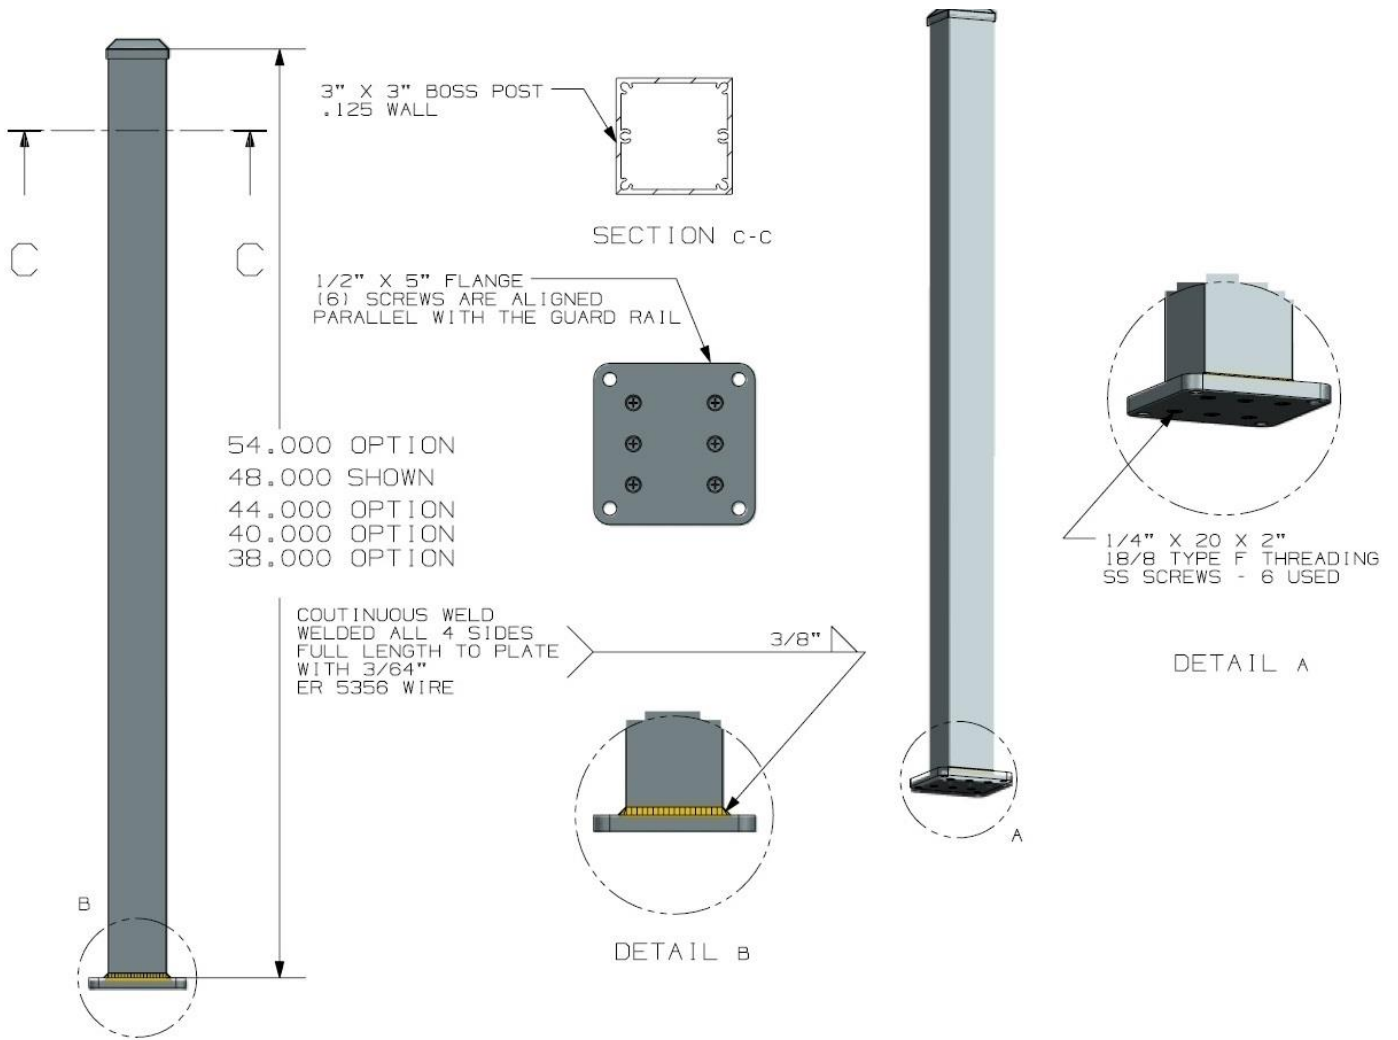

Figure 20 – 3 Inch Commercial Post
3.8.3. The 3 inch square by 0.125 inch wall commercial post is extruded 6005-T5 aluminum tube with internal screw slots. See Figure 20.